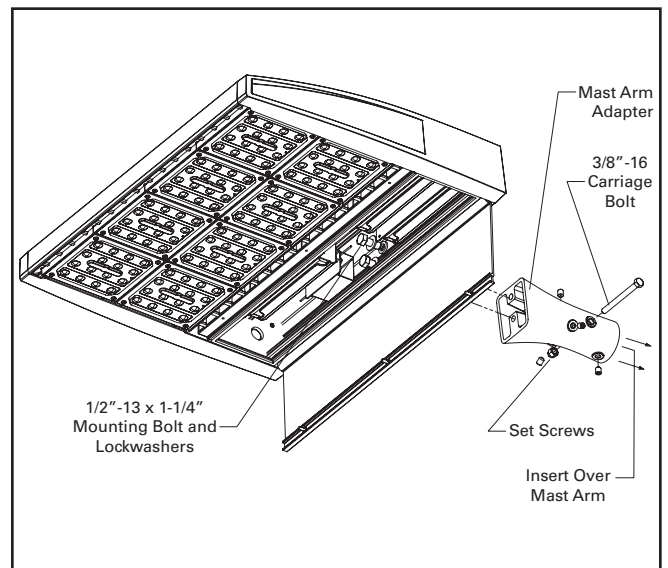

Fig 3.
**Mast Arm Adapter Mount (FIG. 3)**
1. Loosen (3) screws located in the access door of the fixture and open the door.
6. Secure the mast arm adapter to the mast arm with the (4) 3/8-16 x 3/8" set screws. Tighten set screws to 12.5 ~ 13 ft-lbs.